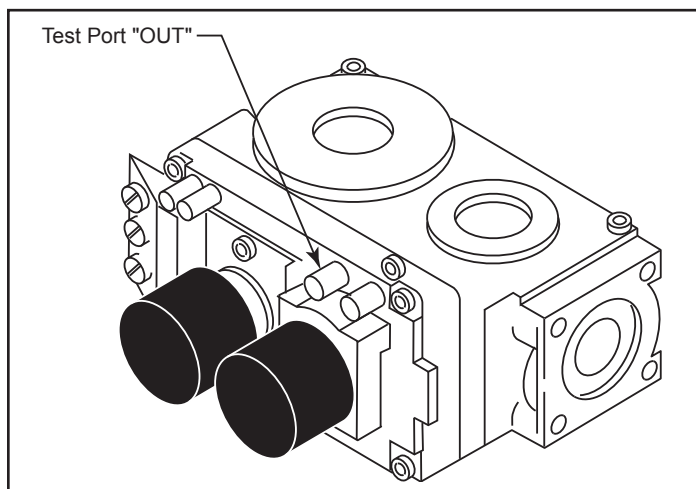

Figure 10 - Pressure Test Point Location Millivolt Control
**Millivolt Control** - Figure 10